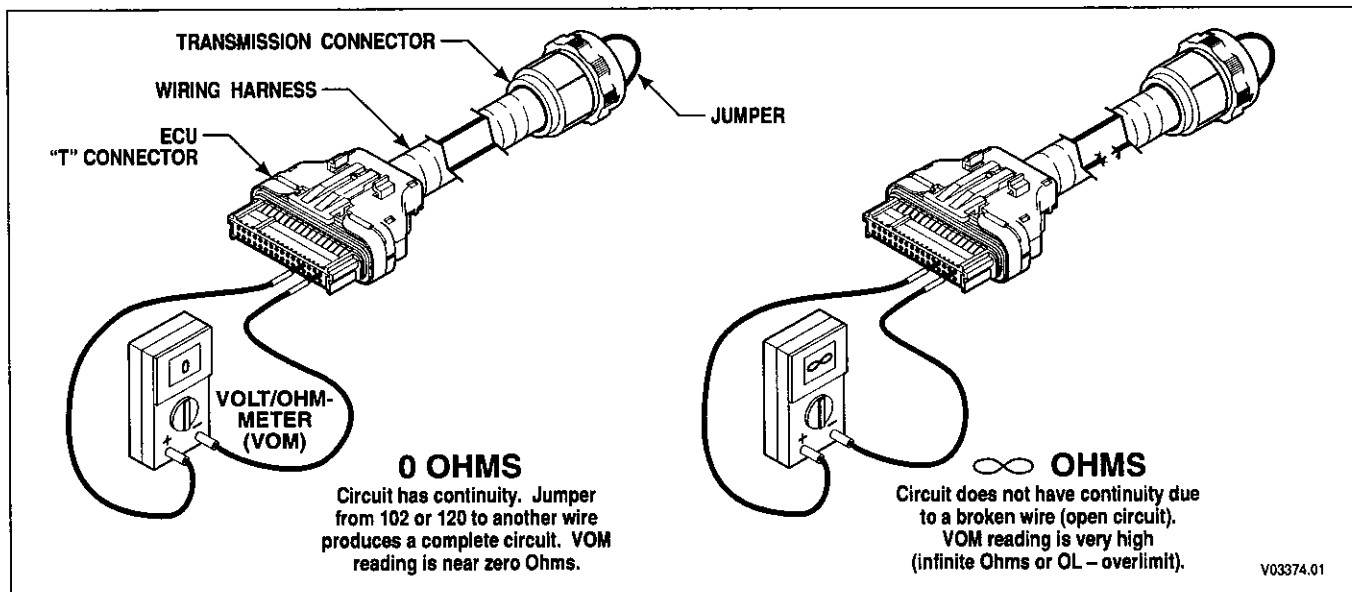

Figure 4-1. Open Circuit
- a. Check continuity of wires 102-T1 and 120-T4 by performing the following (refer to Figure 4-1):
- (1) Disconnect the blue “T” connector from the ECU and disconnect the harness from the transmission main connector. At one end of the harness, using jumper wire kit J 39197 and connector probes in J-39775-CP, connect wire 102-T1 and 120-T4 to each other, being careful not to distort the terminals. Jumping the wires together creates a circuit between wires 102-T1 and 120-T4.